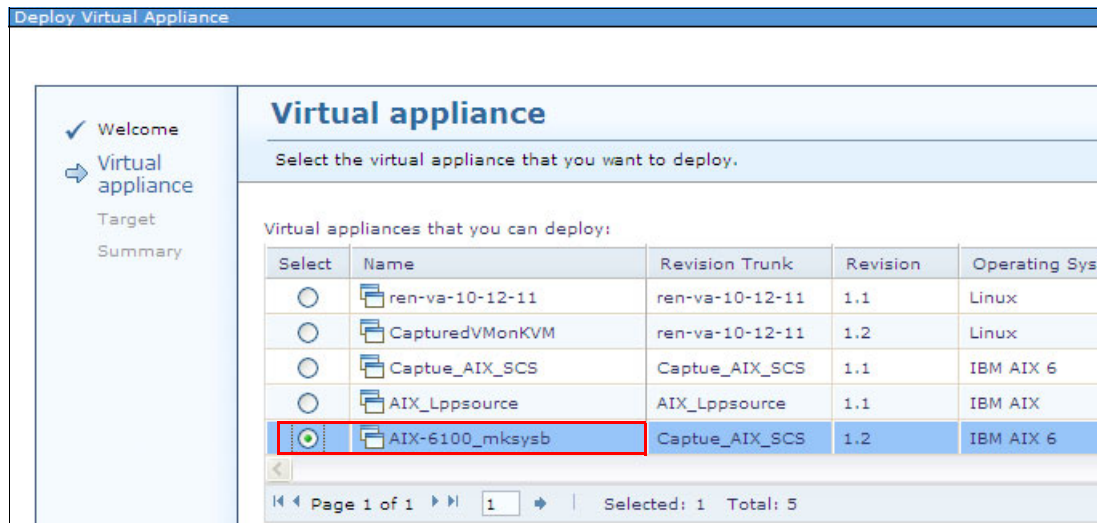

Figure 10-143 Selecting a virtual appliance of the mksysb type
3. Select the virtual appliance of the mksysb type as shown in Figure 10-143.